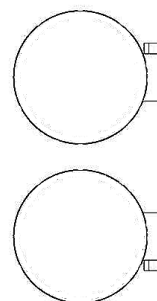

FIGURE 3
- Unscrew the remaining hose clamps and feed the tail end of the clamp through the clips on the inside of the heatshields, the larger clamps go to the rear of the heatshields where they will rest on the muffler bodies, smaller ones to the front for the headpipes. The screw end of the hose clamp should be accessible for tightening but not visible when heatshields are mounted to the pipes, see Figure 3.